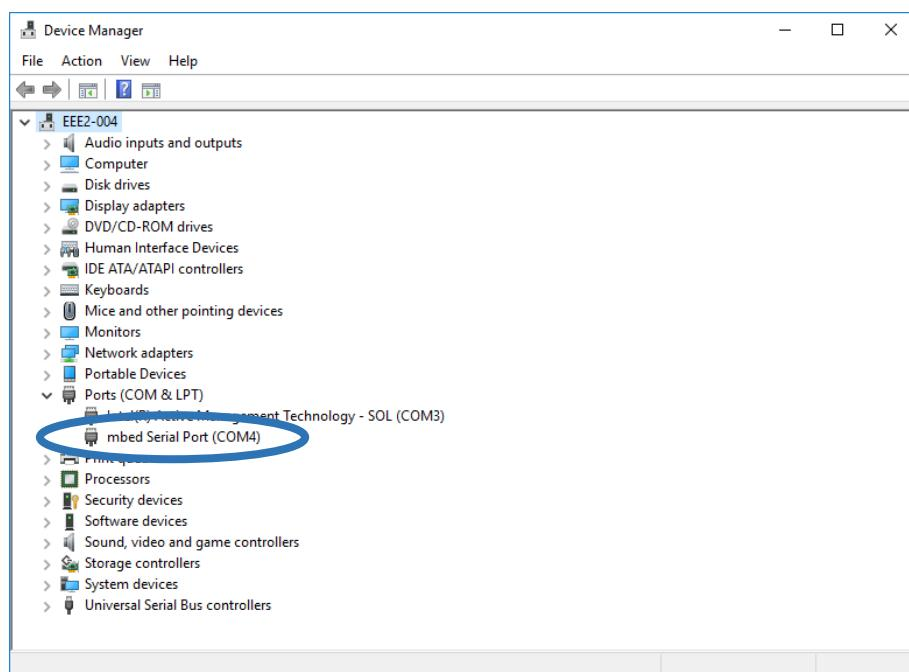

Figure 12: Device Manager window.
- V. Next you need to find the serial port number of the board on your PC, to do it open the Windows’ Control Panel, then “Device Manager” and expand the Ports (COM and LPT) section (in this example it is “COM4” as shown in Figure 12).